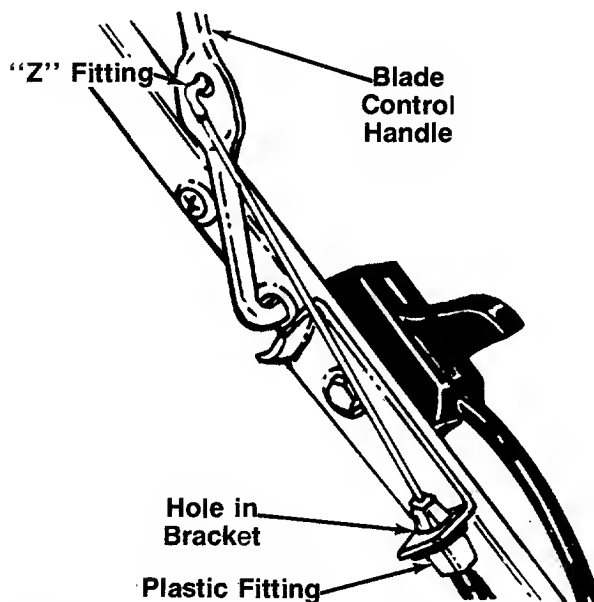

FIGURE 4.
1. The brake cable is attached to the engine, and has a "Z" fitting on the loose end. Route the brake cable below the lower handle. Place end of cable through the hole in the bracket as shown in figure 4. Be careful not to bend or kink the cable at any time. Push the plastic fitting until it locks into the hole in the bracket.
2. Hook the "Z" end of the brake cable into the hole in the blade control handle from the inside to the outside as shown in figure 4.